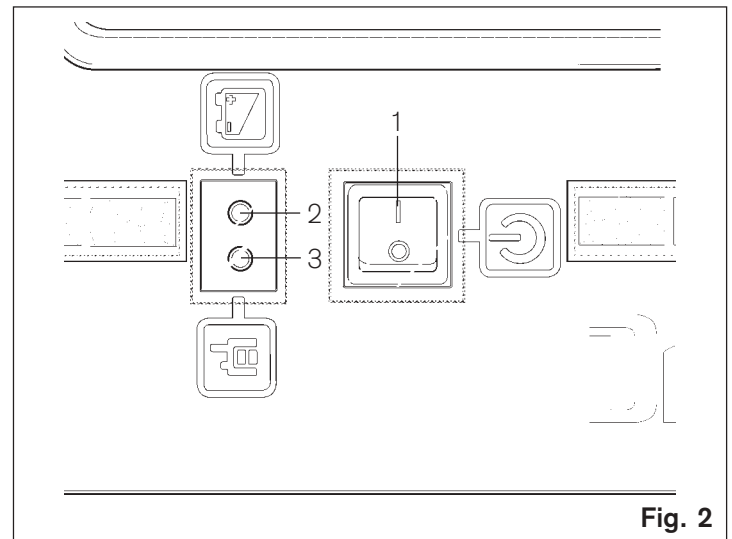

Fig. 2
Refer to Figure 2.
- ◆ Press the toggle switch (1) Fig. 2 to the 'On' position - the 'Red' LED. (2) should begin 'flashing' confirming a satisfactory charge condition of the battery. Switch 'Off'.
*Note: With the toggle switch (1) Fig. 2 in the 'Off' position no power is used from the battery.*
◆ Proceed to the selected location for the positioning of the repeater. When in position, press the toggle switch (1) Fig. 2 to the 'On' position and wait for the 'Green' LED (3) to begin flashing as this will confirm a successful radio link with the ECB. See Important Note. The flashing 'Red' LED confirms a satisfactory charge condition of the battery.
- ◆ Repeater No. 1 – prepare and position for operational use as described in the previous section, i.e. Operation - Single Repeater. The 'Green' LED (3) Fig. 2 flashing.
- ◆ Retrieve the repeater(s) from the selected location(s) and switch 'Off' by pressing the toggle switch (1) Fig. 2 to the 'Off' position. The 'Red' and the 'Green' LED will extinguish.